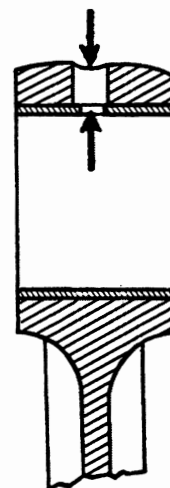

Fig. G3
3. Press in new bush so that the lubricating oil hole in the bush aligns with the lubricating oil hole in the top of the connecting rod (see fig. G3).